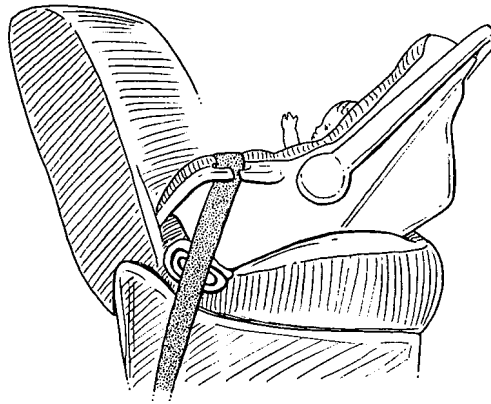

Figure 13-1. Leveling the Rear-Facing Infant Seat to a 45-Degree Angle.
- For rear-facing infant seats: Be sure to verify that the infant seat is not too upright. You may place a tightly rolled towel or sheet in the vehicle seat crack to level the infant seat to a 45-degree angle (see Figure 13-1). Be careful not to tilt the infant seat too far back.